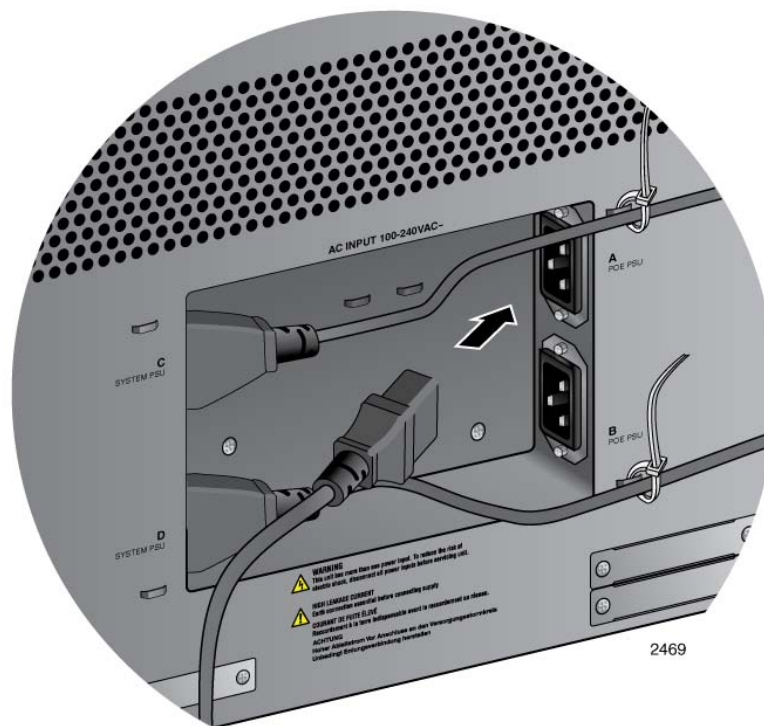

Figure 96. Connecting the AC Power Cord for the AT-SBxPWRPOE1 Power Supply
2. Plug the AC power cord that comes with the power supply into one of the plugs, as shown in Figure 96.